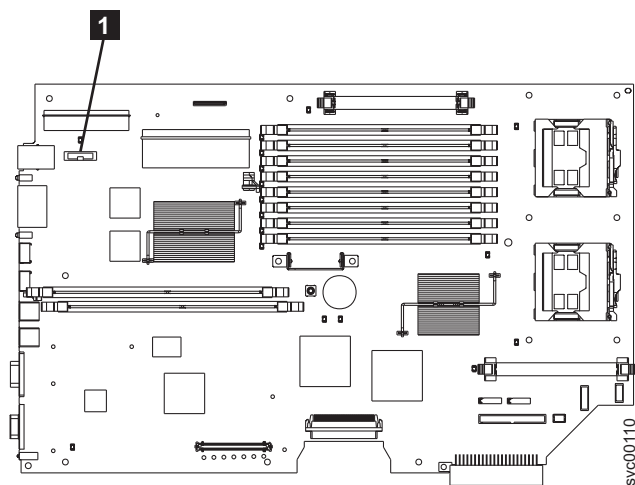

Figure 137. Location of the CMOS battery on the SAN Volume Controller 2145-8F2 or the SAN Volume Controller 2145-8F4
5. Locate the battery **1** on the system board. Figure 137 shows the location of the battery.